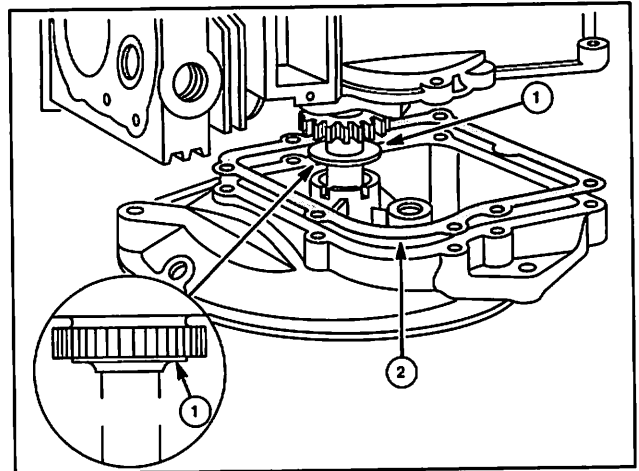

Fig. 23
If end play is less than required, use additional gaskets (2), .005" (.13 mm), .009" (.23 mm), or .015" (.38 mm) alone or in combination, to adjust, Fig. 23.
NOTE: If end play exceeds specification with one .015" (.38 mm) thick gasket, a thrust washer (1) is available for use on the P.T.O. end of the crankshaft (except Model Series 100700, 120000, flywheel end only), with additional .005" (.13 mm), .009" (.23 mm) or .015" (.38 mm) gasket to reduce end play, Fig. 23.